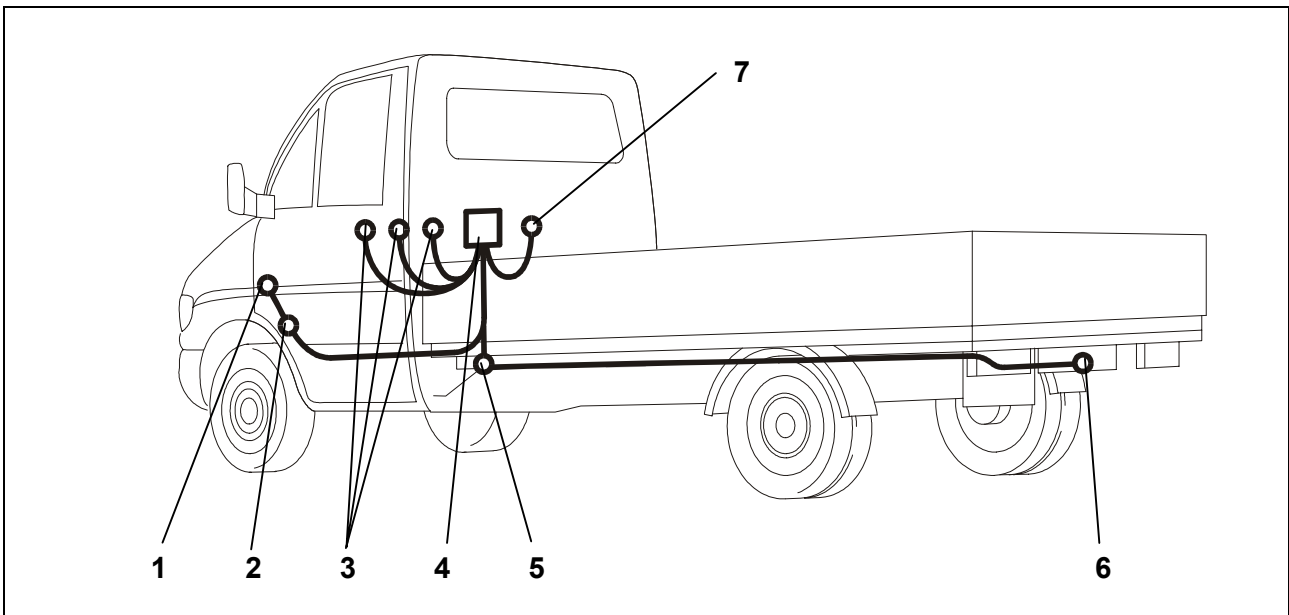

Fig. 1: Installation Overview
4. Starting inside the vehicle, lay the cable end through the cable leadthrough (Fig. 1/5) to the outside.
5. Insert the rubber grommet into the cable leadthrough (Fig. 1/5).
6. Lay the cable harness under the vehicle to the socket holder plate (Fig. 1/6) and secure it in place using cable ties.
10. Screw the socket onto the socket holder plate (Fig. 1/6) using the supplied screws and nuts.
13. Secure the trailer module (Fig. 1/4) in a suitable place using some velcro tape.
14. Connect the brown wires with the eyelet to a ground point of the vehicle (Fig. 1/7).